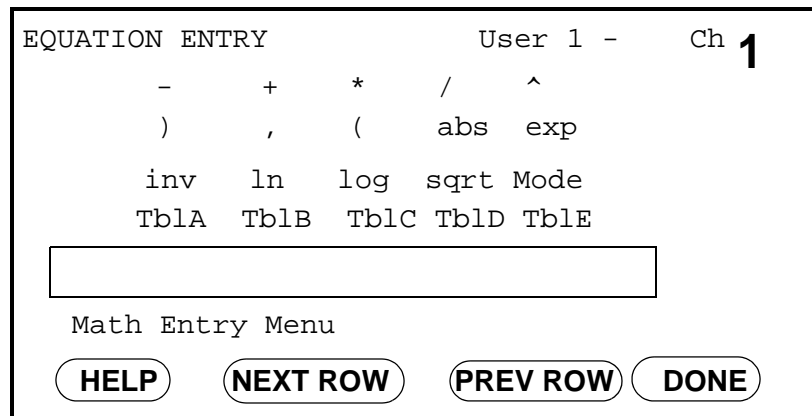

Figure 34: Math Entry Menu
1. Move the pointer to the Equation box. Press [YES] to enter the function. The Math Entry Menu appears, as shown in Figure 34.